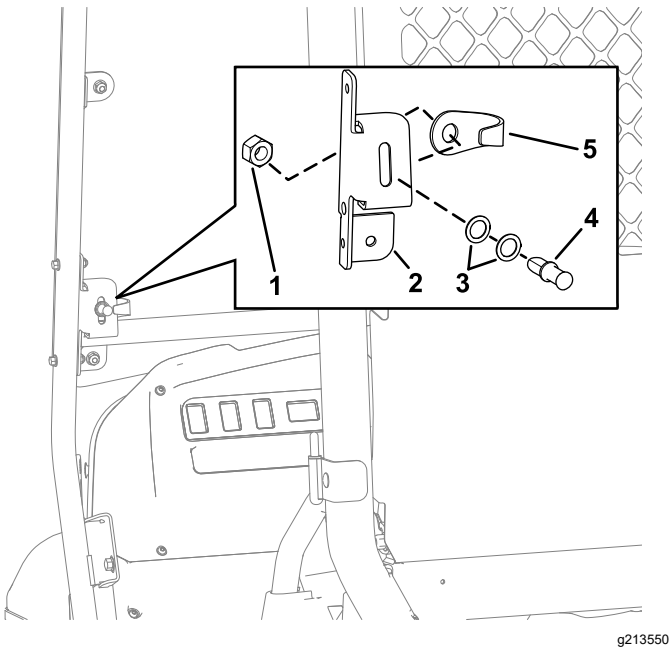

Figure 63
1. Align the latch pin and the pin guard with the opening at the mount bracket as shown in Figure 63.
2. Insert the latch pin (without the washers at first) into the pin guard (Figure 63).
3. Align the latch pin and the jam nut onto the back side of the opening at the mount bracket (Figure 63).
4. Tighten the jam nut onto the latch pin by hand (Figure 63).